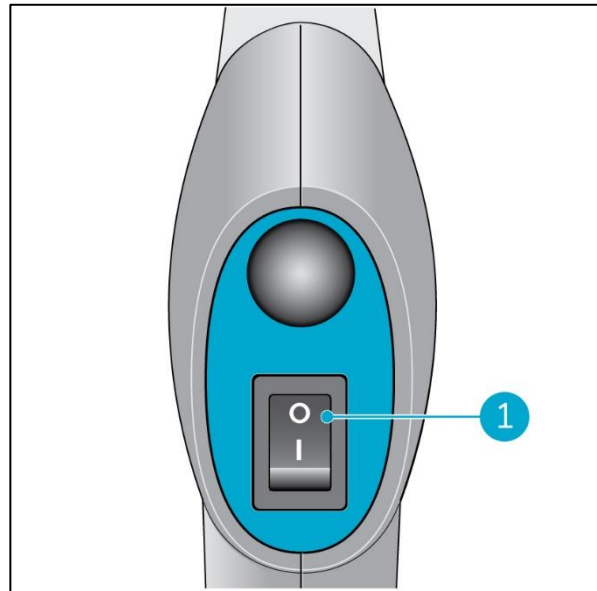

Figure 23
4. Press the ON/OFF button (Figure 23, pos 2) on the spray gun.
6. Press the ON/OFF button on the spray gun (Figure 23, pos 2).